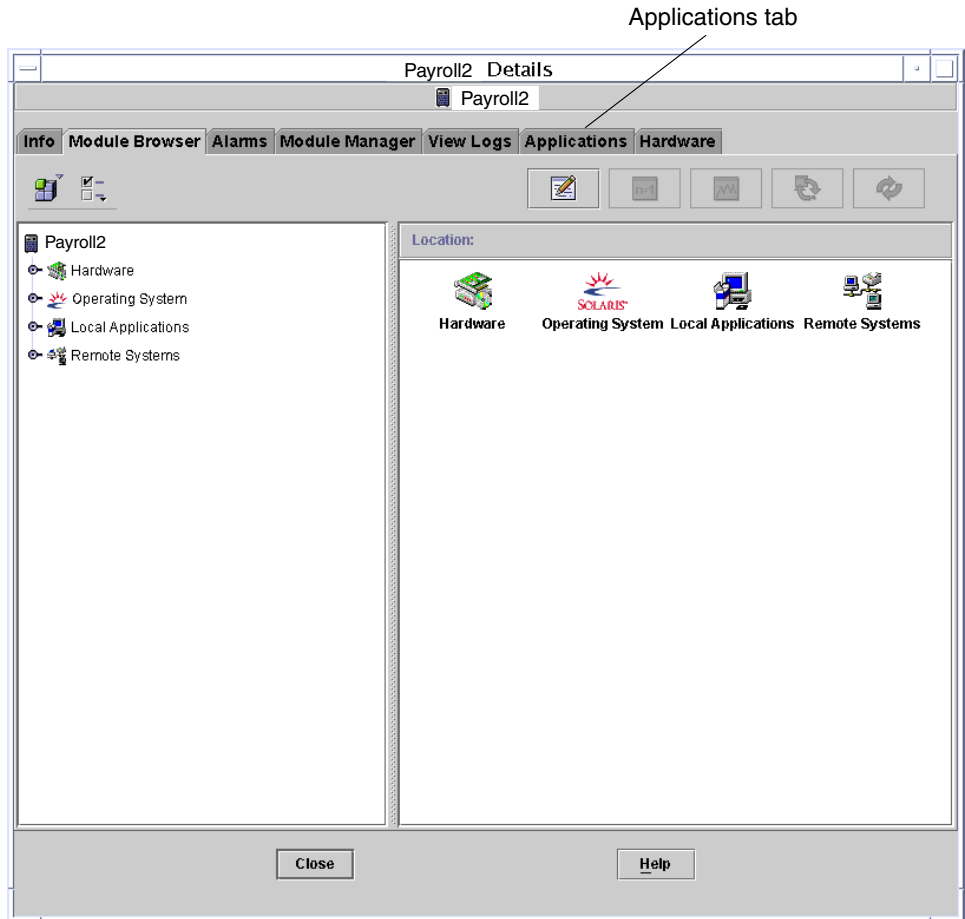

FIGURE 3-3 Sun Management Center Details Window
The Details window for the selected host is displayed (FIGURE 3-3).
3. Click the **Applications tab** to access the Sun Management Center add-on products (see FIGURE 3-3).